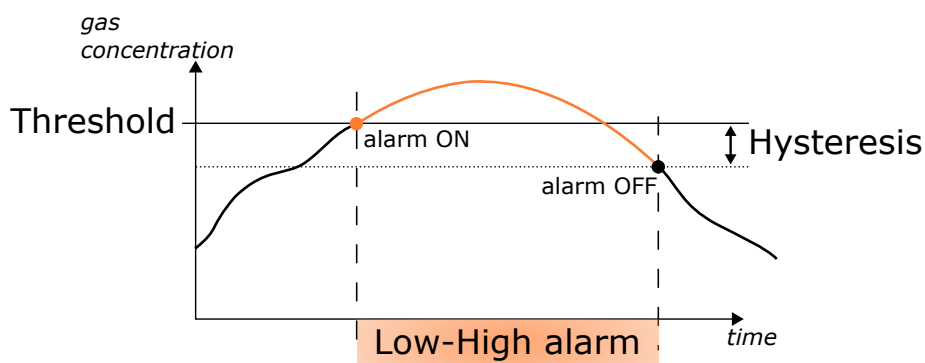

Figure 7.10: Hysteresis behavior when setting the limit type Low-High
- **L/H**: Limit value switches on when the threshold is exceeded, it is switched off when the threshold - hysteresis is undershot, see Figure 7.10.